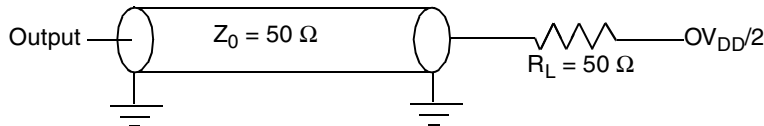

Figure 36. AC Test Load for the JTAG Interface
1. All outputs are measured from the midpoint voltage of the falling/rising edge of t_{TCLK} to the midpoint of the signal in question. The output timings are measured at the pins. All output timings assume a purely resistive $50\text{-}\Omega$ load (see Figure 36). Time-of-flight delays must be added for trace lengths, vias, and connectors in the system.
2. The symbols used for timing specifications herein follow the pattern of $t_{(\text{first two letters of functional block})(\text{signal})(\text{state})(\text{reference})(\text{state})}$ for inputs and $t_{(\text{first two letters of functional block})(\text{reference})(\text{state})(\text{signal})(\text{state})}$ for outputs. For example, $t_{JTDV\text{KH}}$ symbolizes JTAG device timing (JT) with respect to the time data input signals (D) reaching the valid state (V) relative to the t_{JTG} clock reference (K) going to the high (H) state or setup time. Also, $t_{JTDX\text{KH}}$ symbolizes JTAG timing (JT) with respect to the time data input signals (D) went invalid (X) relative to the t_{JTG} clock reference (K) going to the high (H) state. Note that, in general, the clock reference symbol representation is based on three letters representing the clock of a particular functional. For rise and fall times, the latter convention is used with the appropriate letter: R (rise) or F (fall).
Figure 36 provides the AC test load for TDO and the boundary-scan outputs.